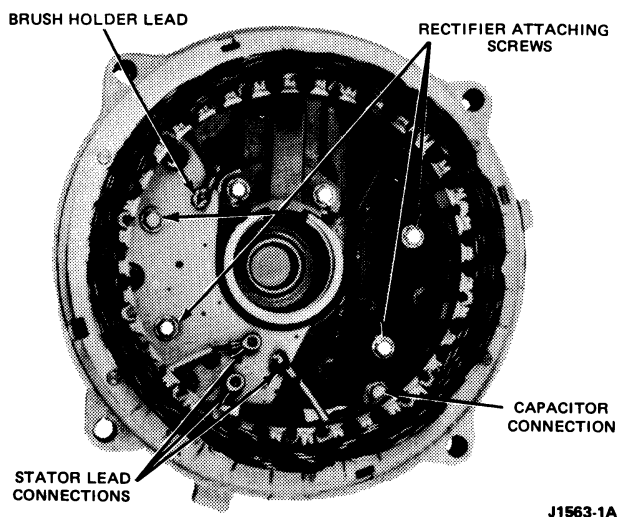

FIG. 6 Stator Lead Connections
6. Unsolder and disengage the three stator leads from the rectifier (Fig. 6). **Use a 200-watt solder iron.**
10. Remove four screws attaching the rectifier to the rear housing (Fig. 6).
10. Install but do not tighten the four rectifier attaching screws, (Fig. 6).
13. Press the brush holder lead on the rectifier pin and solder securely (Fig. 6). **Use a 200-watt solder iron.**
14. Position the stator in the rear housing and align the scribe marks. Press the three stator leads on the rectifier pins and solder securely (Fig. 6). **Use a 200-watt solder iron.**
3. Unsolder and disengage the three stator leads from the rectifier (Fig. 6). **Use a 200-watt solder iron.** Then, lift the stator from the rear housing.
6. Remove four screws attaching the rectifier to the rear housing (Fig. 6).